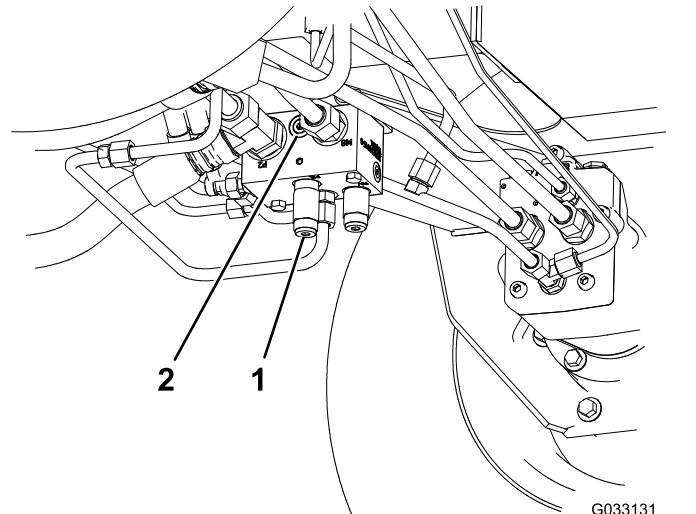

Figure 39
- Toro Part No. 95-0985, coupler fitting (2)
- Toro Part No. 340-77, hydraulic fitting (2)
1. Install a diagnostic fitting in the unmarked port located between ports M8 and P2 on the rear traction manifold (Figure 39).